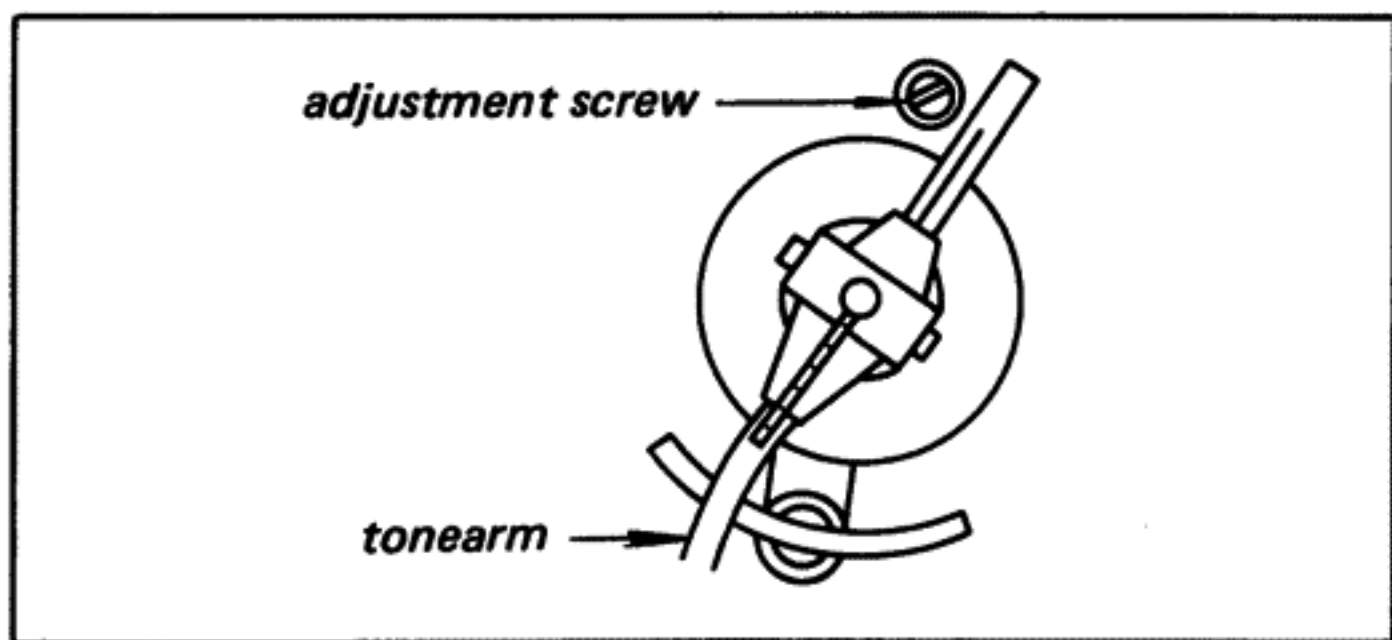

Fig. 3-13. Shutter position adjustment (2)
6. Adjust the position of the shutter by turning the adjustment screw (See Fig. 3-13.) so that the VOM reads  $4.5 \pm 0.5$  V.
After completing the preceding adjustments (A, B, C), check the automatic return operation by using a record. If it is not working properly, adjust by turning the adjustment screw as shown in Fig. 3-13.